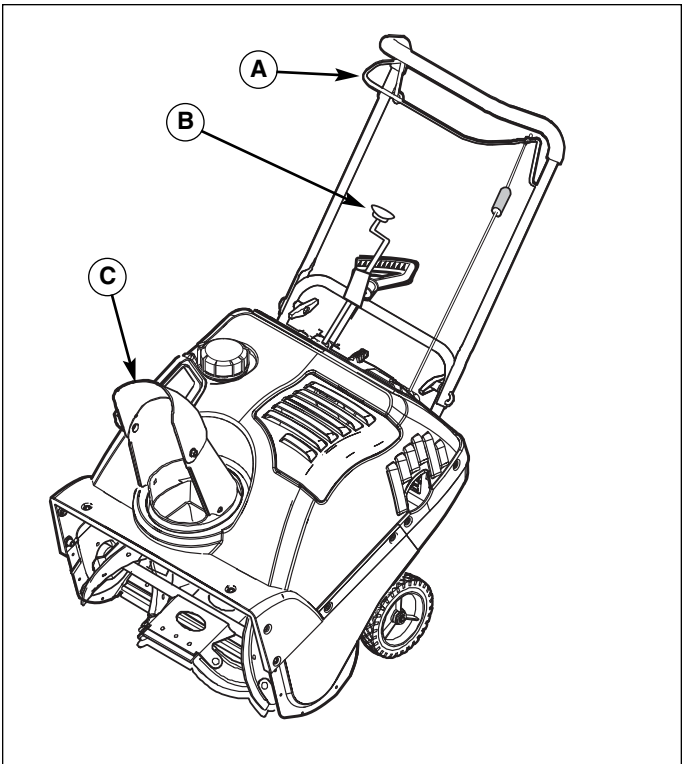

Figure 7. Snowthrower Controls
C. Chute Deflector - Controls the distance snow is thrown. Tilting the Chute Deflector (C, Figure 7) UP provides a higher stream and greater distance, while tilting the deflector DOWN provides a lower stream and less distance.
3. Check the Auger Control (A, Figure 7) for proper operation. If adjustment is required, see the Troubleshooting and Service section for procedures.
4. Check the Chute Direction Control (B, Figure 7) for proper operation. The discharge chute should rotate freely in both directions. See the Troubleshooting and Service section for procedures.
5. Check the Chute Deflector (C, Figure 7) for proper operation. The deflector should pivot freely up and down. See the Troubleshooting and Service section for procedures.